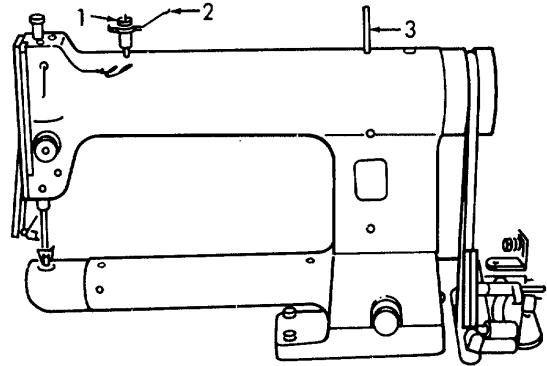

Figure 6-85. Needle Thread Guide, Removal.
a. *Removal (Refer to Figures 6-85 and 6-86).*
- (1) Refer to Figure 6-85. Pull press-fit pin (1) straight up.
- (2) Remove needle thread guide assembly (2).
- (3) Remove post (3).